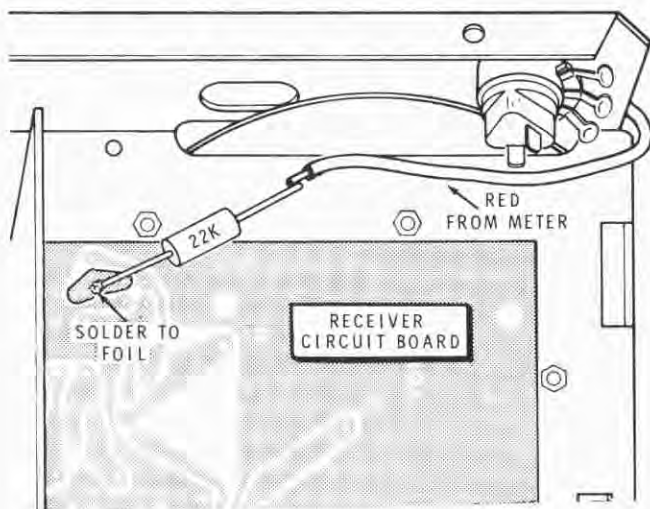

Figure 2-5
- ( ) Refer to Figure 2-5 and tack solder one lead of the 22 k $\Omega$  (red-red-orange) resistor to the foil shown on the receiver circuit board (S-1).